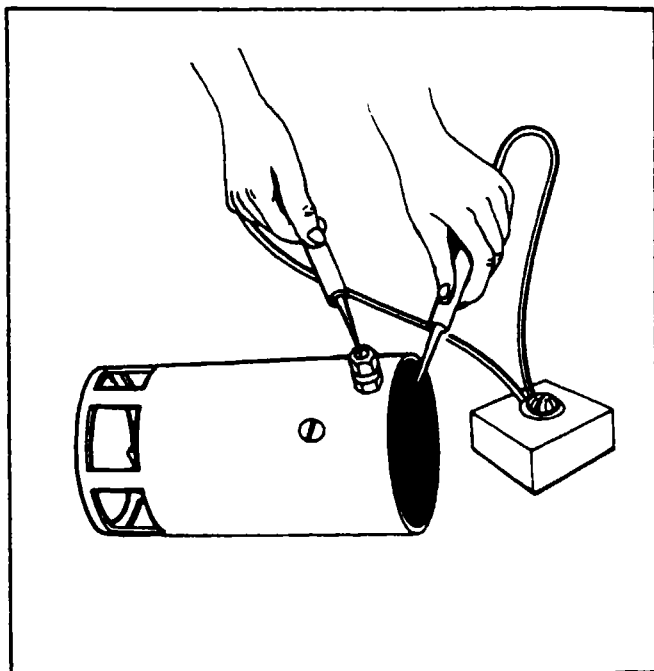

Figure 11-18. Testing Motor Fields for Grounds
a. Check the field coils for grounds (refer to Figure 11-18) by placing one test probe on the frame and the other on the starter terminal. Be sure the brushes are not accidentally touching the frame. If the lamp lights, the fields are grounded. Repair or replace.